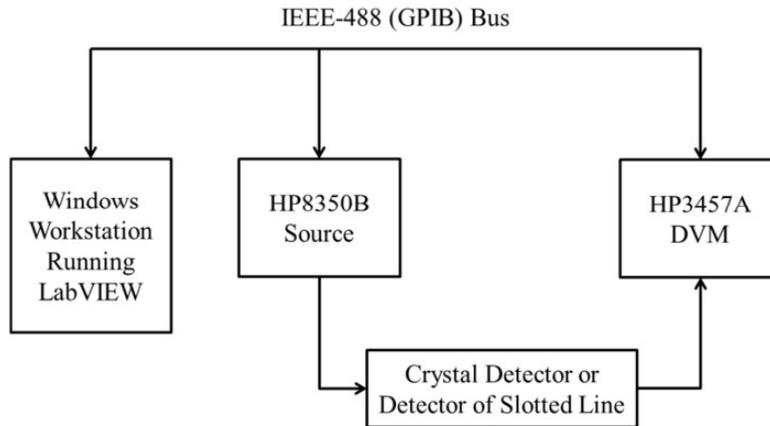

Figure 5: Block diagram of automated measurement setup
- The next part of this lab is to automate the process you just went through. Figure 5 illustrates the equipments set up. They will communicate with each other via GPIB connection.